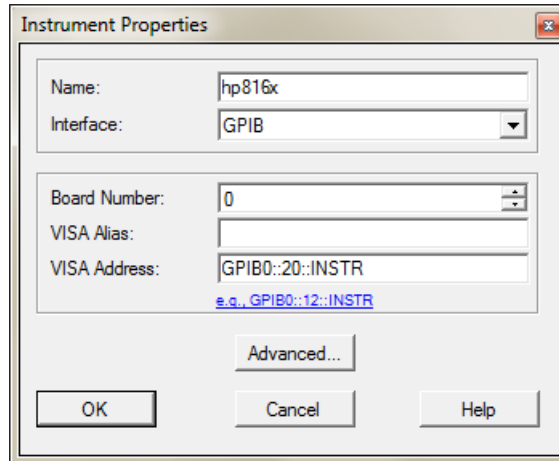

Figure 5 Device Configuration
- 2 Click on the Add button to bring up the Instrument Properties screen, see Figure 5.